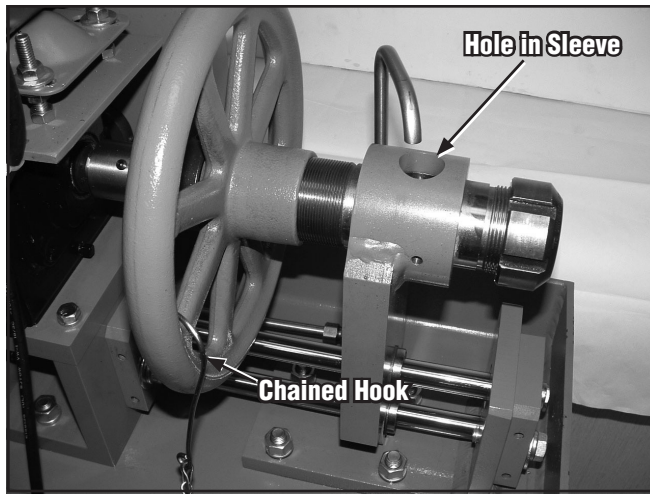

Figure 6
- 4.18 Rotate feedwheel until you see the cutting blades extend approximately 1/4" through the hole in the sleeve see Figure 6.